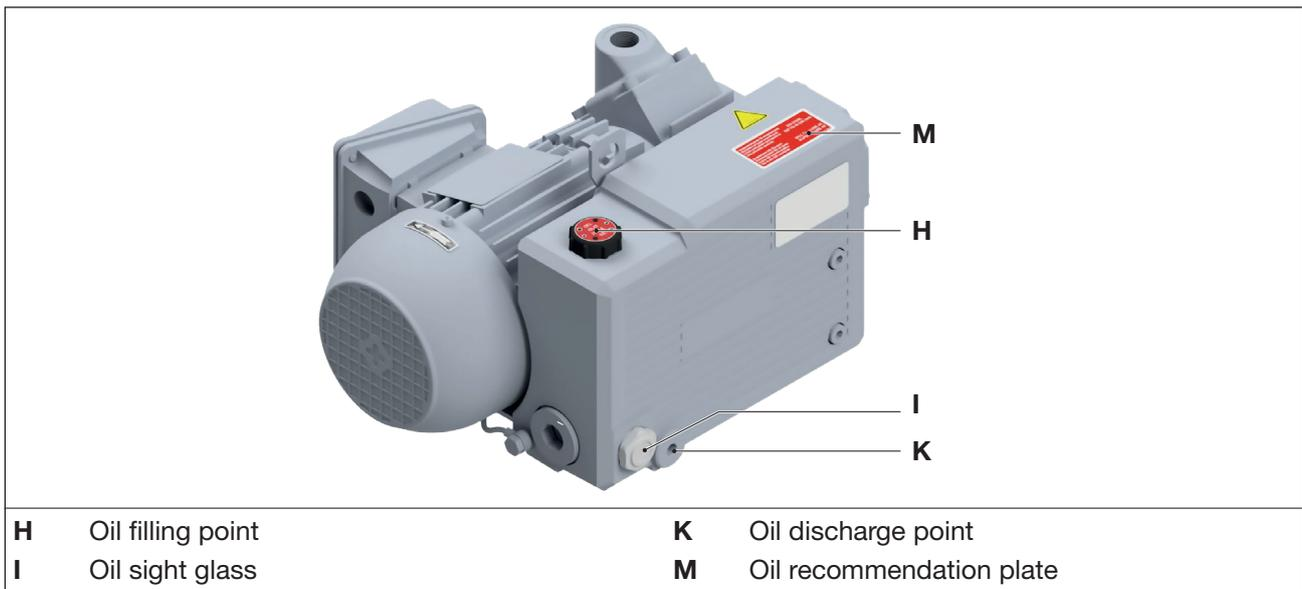

Fig. 7 Oil change
As operating agent, we recommend Elmo Rietschle oils, see oil recommendation plate (Fig. 7/M) as well as Tab. 3 on page 29:
- Open the cap of the oil filling point (Fig. 7/H) and refill oil until it reaches the upper edge of the sight glass (Fig. 7/I).
- Open the catch of the oil filling point (Fig. 7/H), open the oil discharge point (Fig. 7/K) and completely discharge the used oil.
- Close the oil discharge point (Fig. 7/K) and fill in new oil through the oil filling point (Fig. 7/H).
- Check the oil level in the sight glasses (Fig. 7/I).
- b) Release two screws (Fig. 7/s3) on the blow-out cover (Fig. 7/T) and remove the blow-out cover from the pump incl. sealing.
- c) Unscrew the oil separator element (Fig. 7/L) with a ring spanner (width across flats 10 mm) in counter-clockwise direction and dispose of in an environmentally friendly manner.
- d) Check the O-Ring (Fig. 7/d) of the new air oil-removing element for tight fit and oil it slightly.
- e) Push in the new oil separator element (Fig. 7/L) and screw it in clockwise.
- f) Mount the blow-out cover (Fig. 7/T) by means of the two screws (Fig. 7/s3) . Tightening torque: 6 Nm